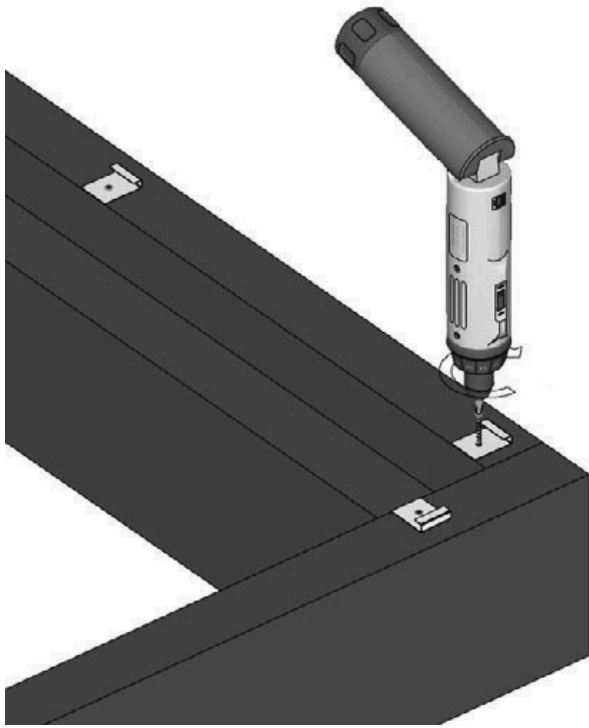

FIG. 21 – STARTER FASTENERS SECURED TO THE OUTER JOIST
- 07 Secure starter fasteners onto the outer joist (fig. 21) at 300 mm intervals.